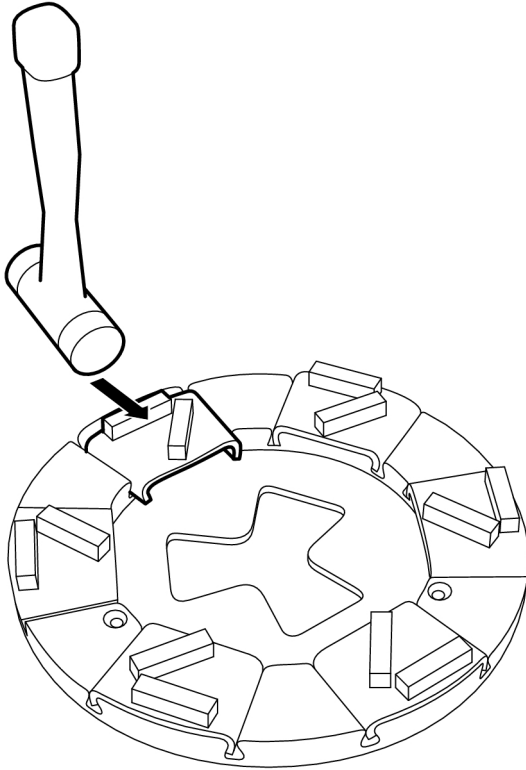

Figure 4-15. Removing grinding tools
1. Remove the grinding tool by giving it a few light taps with a hammer so the locking mechanism releases, see Figure 4-15, page 26. Then draw the tool up out of the guide slot.